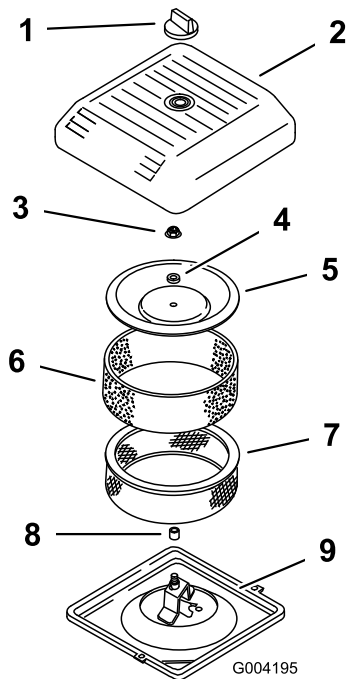

Figure 18
2. Unscrew the knob and remove the air cleaner cover (Figure 18).
3. Carefully slide the foam pre-filter off of the paper element (Figure 18).
4. Unscrew the cover nut and remove the cover, spacer and paper filter (Figure 18).
2. Place the air cleaner assembly onto the air cleaner base (Figure 18).
3. Install the cover, spacer and secure it with the cover nut (Figure 18). Torque the nut to 11 N-m (95 in-lb).
4. Install the air cleaner cover and secure with the knob (Figure 18).